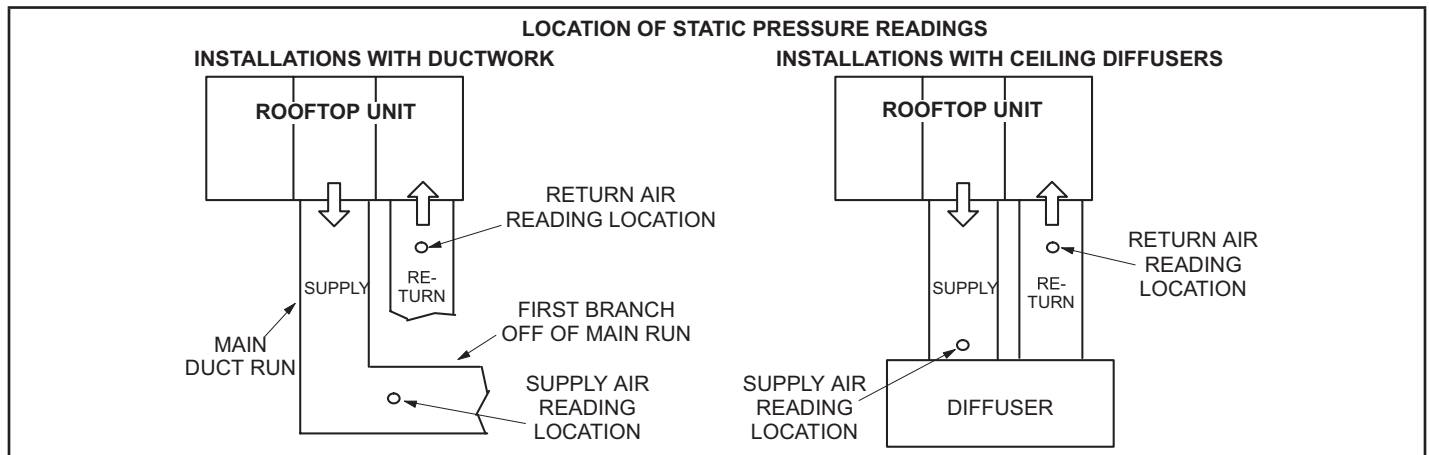

FIGURE 15
- 2 - With all access panels in place, measure static pressure external to unit (from supply to return). Blower performance data is based on static pressure readings taken in locations shown in FIGURE 15.